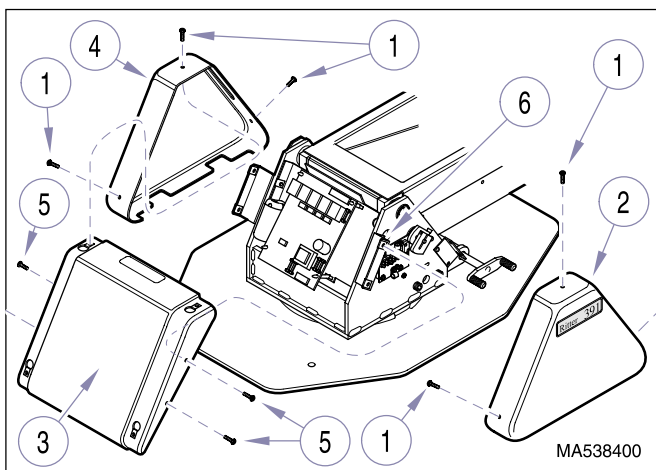
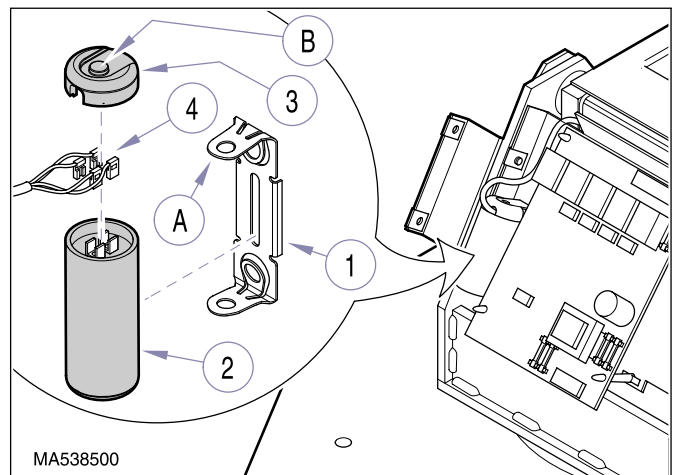

Figure 4-1. Covers Removal / Installation
Figure 4-2. Base Capacitor Removal / Installation
- (1) Unplug chair power cord from wall outlet receptacle.
- (2) Remove three screws (1, Figure 4-1) and R.H. base cover (2) from center base cover (3).
- (3) Remove three screws (1) and L.H. base cover (4) from center base cover (3).
- (4) Remove four screws (5) and center base cover (3) from two cover mounting brackets (6).
- (5) Using a screwdriver, pry tab (A, Figure 4-2) of mounting bracket (1) outward and separate base capacitor (2) from mounting bracket.
- (1) Connect four wires (4, Figure 4-2) to terminals of base capacitor (2); two to each terminal as tagged during removal.
- (2) Install capacitor cap (3) on base capacitor (2).
- (3) Position bottom of base capacitor (2) on mounting bracket (1) and then push top of capacitor inward. Using a screwdriver, force tab (A) of mounting bracket down over catch (B) of capacitor cap (3). Make sure base capacitor is held firmly in place.
- (4) Install center base cover (3, Figure 4-1) on cover two mounting brackets (6) and secure with four screws (5).
- (5) Install L.H. base cover (4) on center base cover (3) and secure with three screws (1).
- (6) Install R.H. base cover (2) on center base cover (3) and secure with three screws (1).
- (7) Plug chair power cord into wall outlet receptacle.